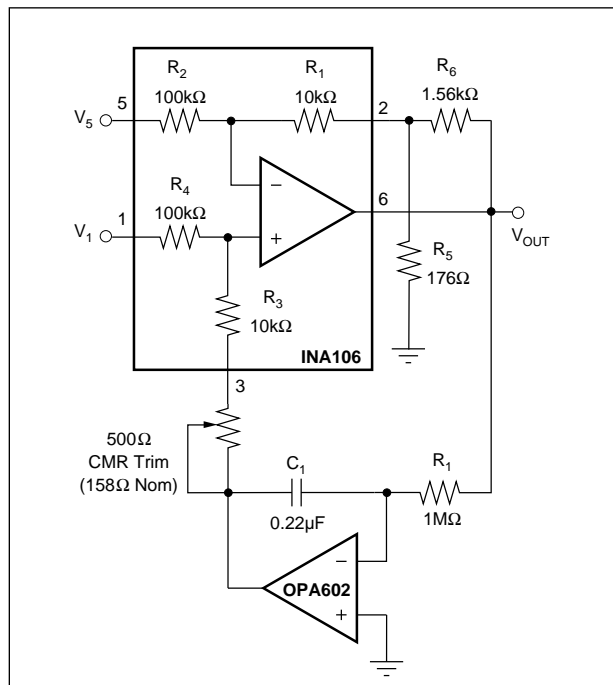

FIGURE 3. AC-Coupled  $\pm 100\text{V}$  Difference Amp Using the INA106.
The simplest circuit for the DC-restored INA106 is shown in Figure 3. The INA106 is reversed from its normal Gain-of-10 configuration. The 100kΩ, 10kΩ resistors form a 11/1 voltage divider on the input so that ±100V at pins 1 and 5 are divided down to less than ±10V at the op amp inputs. The  $R_5$ ,  $R_6$  network provides the proper feedback Gain for an overall unity-gain transfer function. Since the precise resistor matching of the INA106 is disturbed by the  $R_5$ ,  $R_6$  network this circuit requires trims for both CMR and Gain.
NOTES (1) Reverse-connected, see figures 3,4, and 5. (2) Gain is adjustable from 1 to 1000+. Noise and bandwidth depend on Gain setting. INA103 has the lowest noise:  $1\text{nV}/\sqrt{\text{Hz}}$ , Gain = 1000. INA103 has the highest bandwidth: 6MHz, Gain = 1. INA102 is low power ( $750\mu\text{A}$  max). INA110 has FET inputs ( $I_b = 50\text{pA}$  max). INA101 has lowest drift ( $.25\mu\text{V}/^\circ\text{C}$  max). INA120 is a lower IQ INA101 with internal resistors for Gains of 1, 10, 100, and 1000. (3) Yes!, the common-mode input range of standard IAs is only about  $\pm 7\text{V}$  with  $\pm 10\text{V}$   $V_{\text{OUT}}$ ; see "Extended Common-Mode Instrument Amps", *Electronic Design*, December 22, 1988, pp 67, 68.